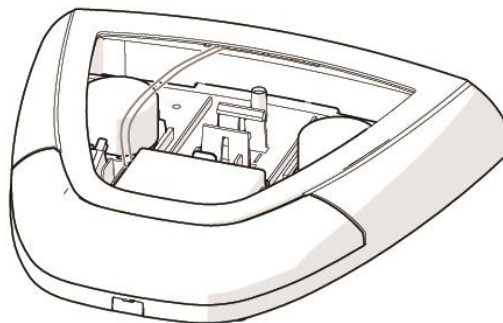

Figure 1
1. Open the screw cover located at the bottom of the sounder and unscrew the cover screw (see Figures 1 and 2).